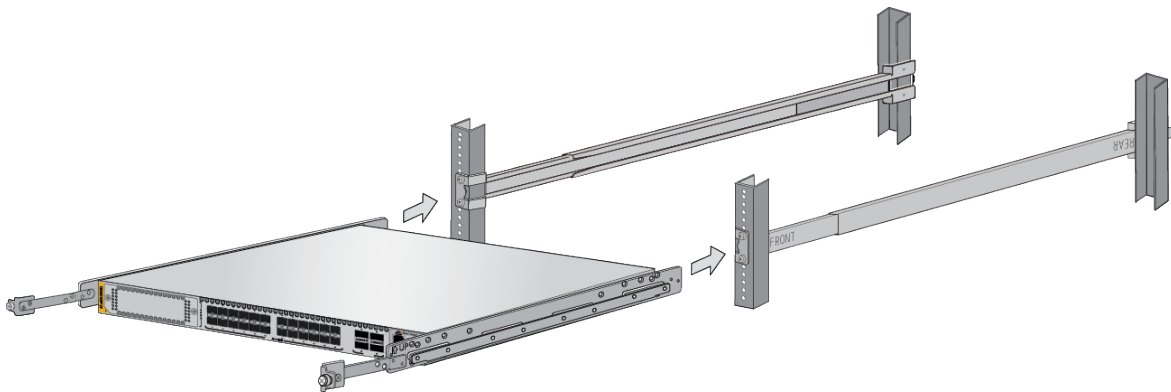

Figure 99. Sliding the Inner Rails on the Switch into the Outer Rails
1. Install the switch in the sliding rack by sliding the inner rails into the outer rail grooves. Refer to Figure 99.